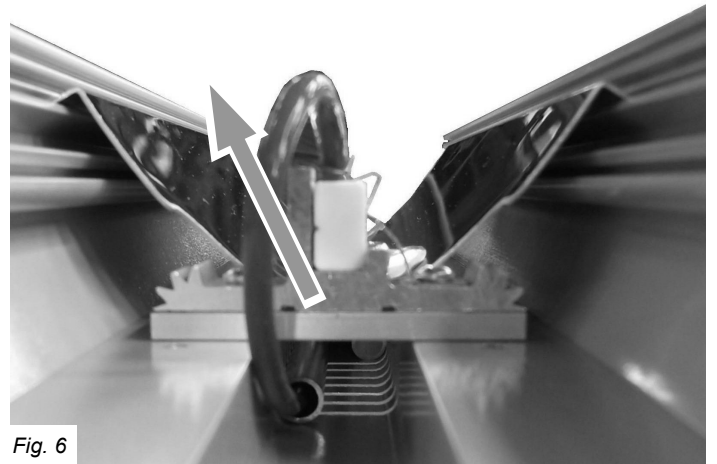

Fig. 6
9. At the opposite end of the emitter, the wire will be clearly visible in the emitter wire tube so gently pull the wire (Fig. 6) out of the tube until it is free.